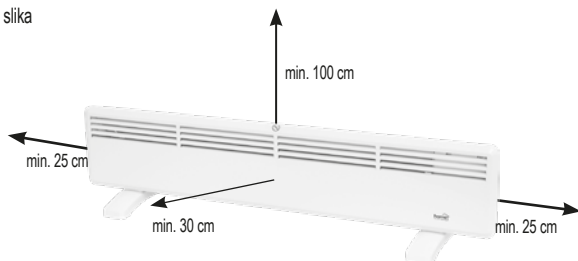

figure 3. • 3. ábra • 3. obraz • figura 3. • Abb. 1 • 3. skica • 3. obrázek • 3. slika
5. For wall use, fix the heater to the wall without the feet using the supplied long screws and plastic dowels (**Figure 3**).